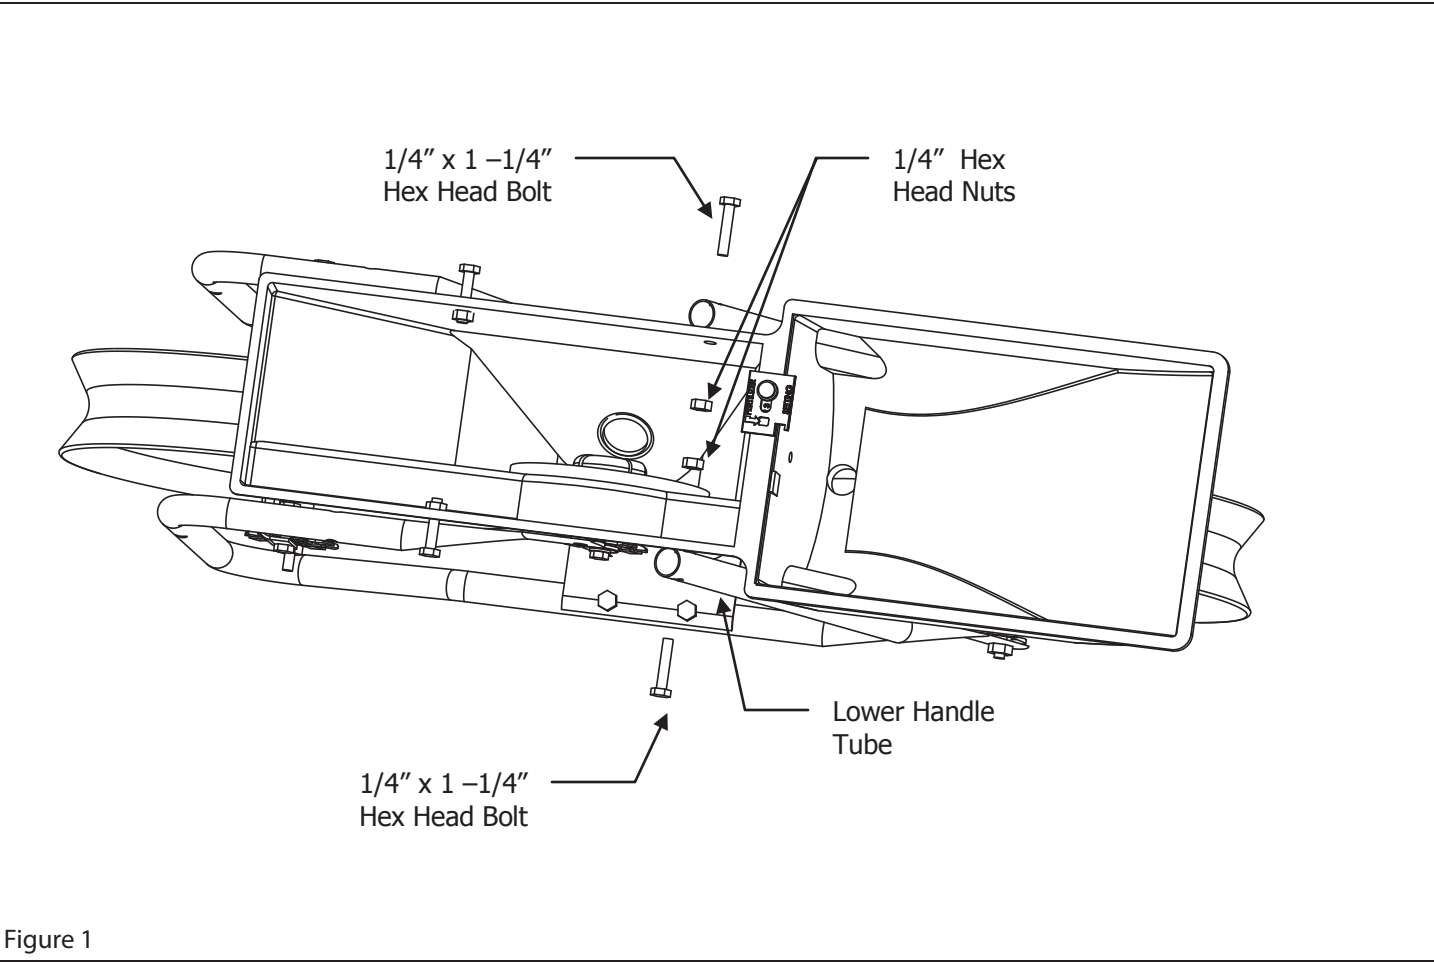

Figure 1
- 1. Remove two 1/4" x 1-1/4" Hex Head bolts and two 1/4" Hex Head Nuts from the top of the lower handle tubes. See Figure 1.